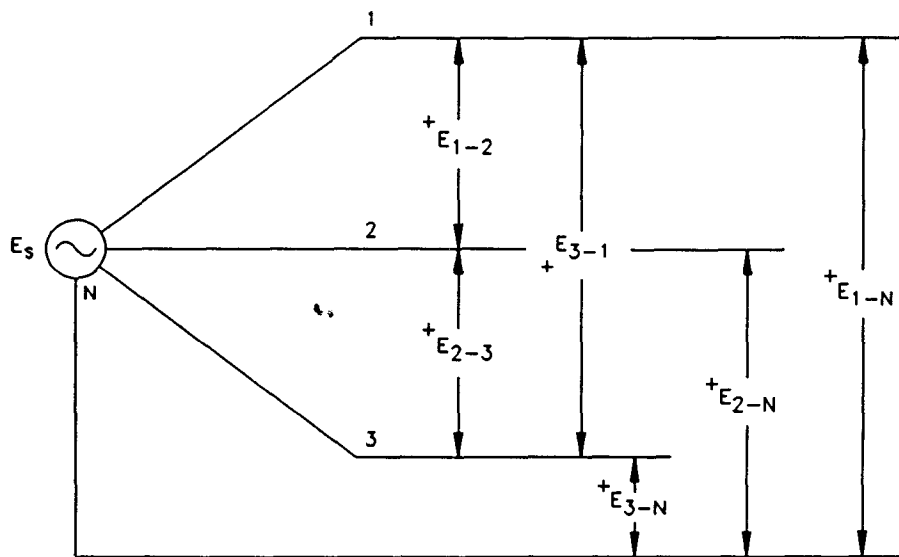

Figure 6-5. Measurement of Line and Phase Voltages.
- 5. Connect E1, E2, and E3 to measure the line-to-neutral and then the line-to-line fixed voltages of the Power Supply shown in Figure 6-5.